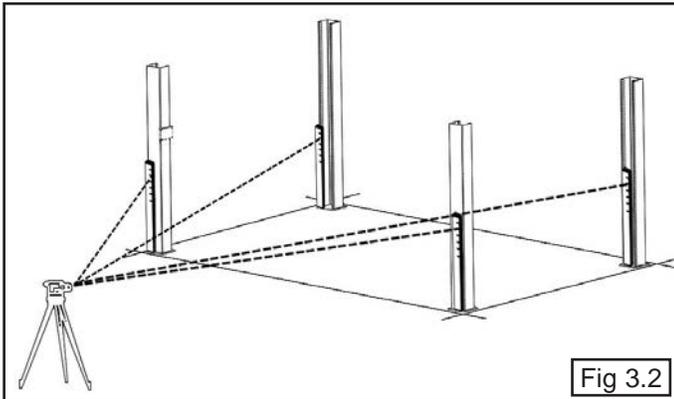

Fig 3.2
2. To estimate the shim requirements, place a target on floor at each post position and record the readings. Find the highest of the four locations then find the difference between each of the remaining posts. This difference is the estimated amount of shim thickness that will be required at each post. (See Fig. 3.2)